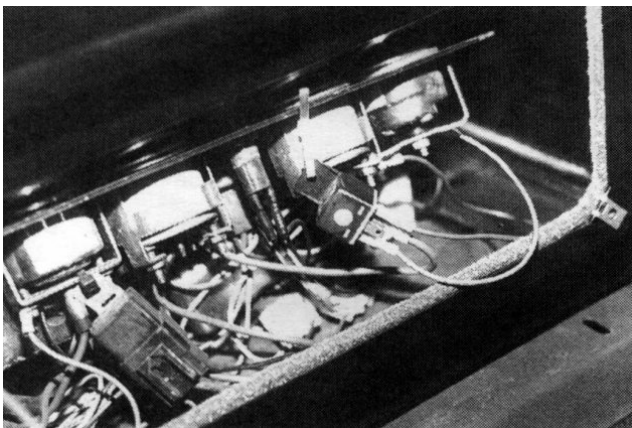

Figure 11
3. Tie the power relay to the fuel gauge mounting bracket as shown in Figure 11 using the cable tie supplied in the mounting kit.